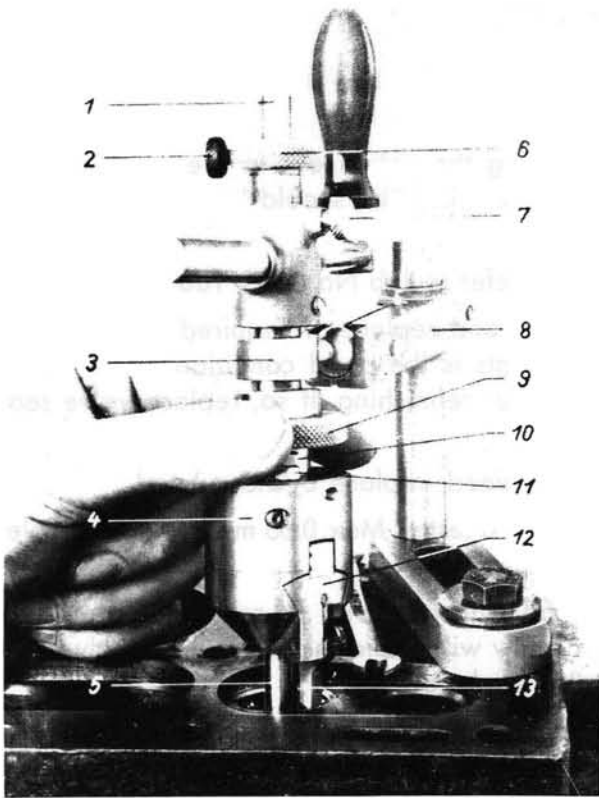

Fig. 01-3/2
1. Machine valve seat ring on pertinent drill press or by means of valve seat turning tool. Fig. 01-3/3 and 01-3/4.